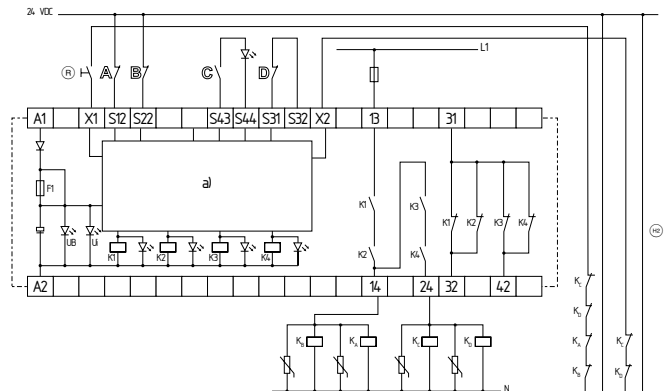

Fig. 3: SRB 202CA, 202CA/T, SRB 202CA/Q, SRB 202CA/QT
**Dual-channel control, shown for a emergency stop circuit; with two contacts A and B and a guard door monitor with two contacts C and D, where at least one is a positive break contact; with external reset button  $\text{\textcircled{R}}$  (related on the switch-off level 1) (see Fig. 3)**